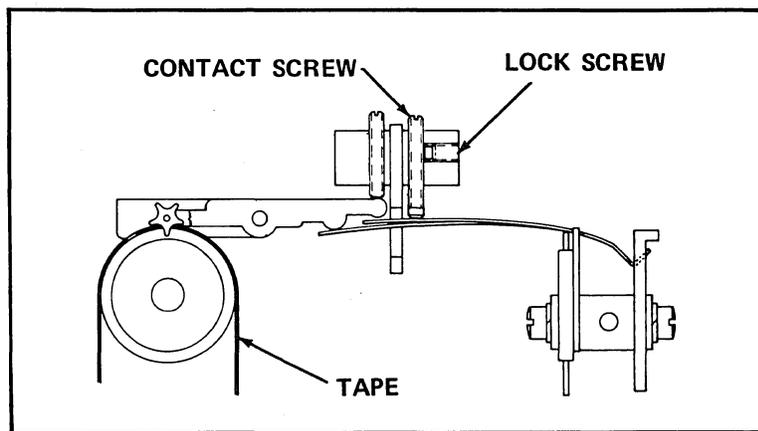

Figure 6-21 Starwheel Contacts Adjustment
- (1) To adjust the starwheel contacts, it is necessary to loosen the lock screws. See Figure 6-21.
- (2) Insert pre-punched tape over sprocket drum.
- (3) With starwheel in hole, adjust contact screw by backing off until buzzer or meter indicates contacts break. Use contact adjustment screw driver (see Table 7-1).
- (4) Remake contact then turn contact screw three quarters turn more. See Figure 6-21.